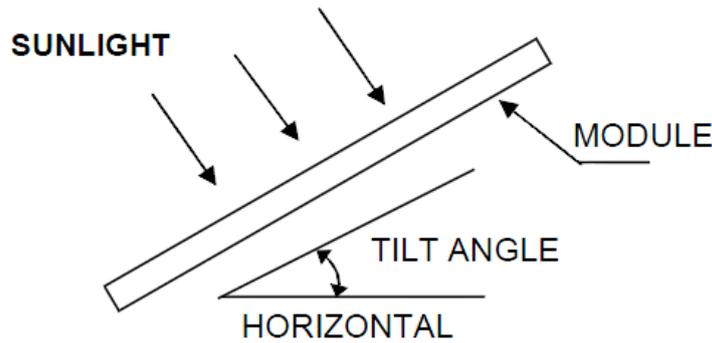

Figure 1 PV Module Tilt Angle
7.5The PV modules produce the most power when they are pointed directly at the sun. For installations where the PV modules are attached to a permanent structure, the PV modules should be tilted for optimum winter performance. As a rule, if the system power production is adequate in winter, it will be satisfactory during the rest of the year. The module tilt angle is measured between the solar modules and the ground (Figure 1). Optimal tilting of PV module is almost the same as the latitude of installation location.